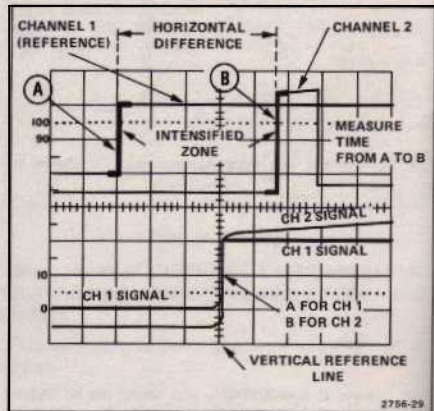

Figure 33. Time difference between two time-related pulses.
- Adjust the channel POSITION controls and the TRACE SEP control for a display similar to Figure 33.
4. Adjust the DELAY TIME POSITION control to move the reference point to desired spot on the reference signal trace (see Figure 33, Point A).
6. Adjust the Δ TIME control to move the time measurement point to the desired spot on the Channel 2 trace (see Figure 33, Point B).